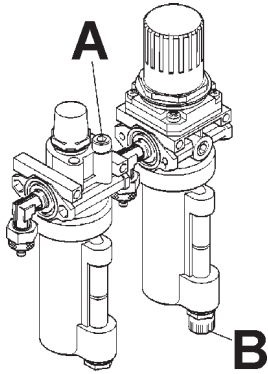

Fig.7.0-3
**H.** Discharge water from air filter every day!! (Do this by turning the knob "B" clockwise and upward. Water will automatically be discharged.) (see 'B' at Fig.7.0-3).